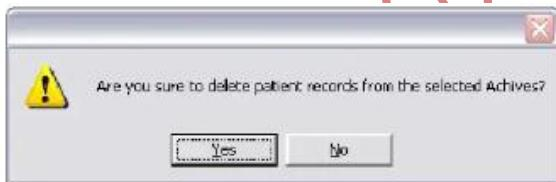

Fig.5-36 Delete Case
2. Click the button "Delete", a dialog box (as Fig.5-36) for confirming pops up, choose "Yes" to delete the appointed case, choose "No" to cancel this operation.